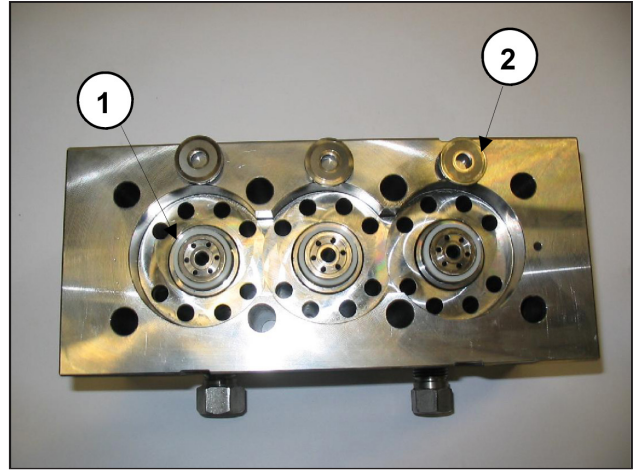

Fig. 23
When removing the liners, take care not to lose the valve seats ① and the flat valves ② as shown in Fig. 23 which, being only laid down, could fall.